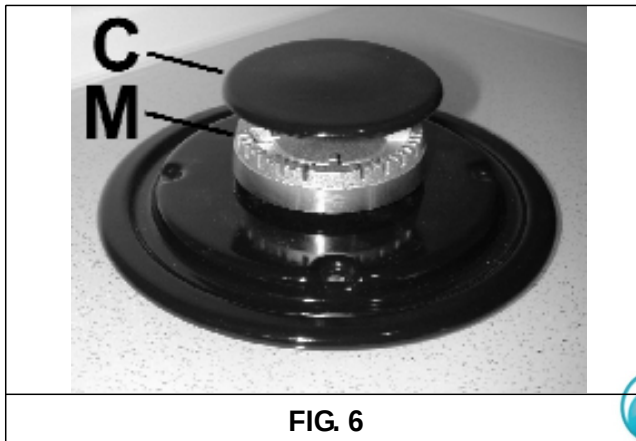

FIG. 6
Periodically wash the hot plate, the cast iron pan support, the enamelled burner caps "C" and the burner heads "M" (see fig. 6) with lukewarm soapy water. Following this, all parts should be thoroughly rinsed and dried. Never wash them while they are still warm and never use abrasive powders. Do not allow vinegar, coffee, milk, salted water, lemon or tomato juice from remaining in contact with the enamelled surfaces for long periods of time.
- ***Check that burner head slots "M" (fig. 6) have not become clogged by foreign bodies.***
- ***Check that enamelled burner cap "C" (fig. 6) have correctly positioned on the burner head. It must be steady.***